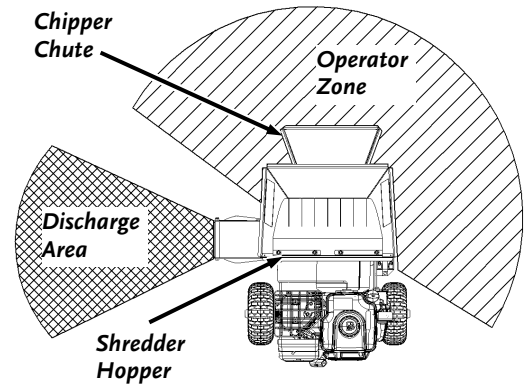

Figure 7
- ALWAYS operate the DR 11.5 CHIPPER SHREDDER from the Operator Zones (**Figure 7**).